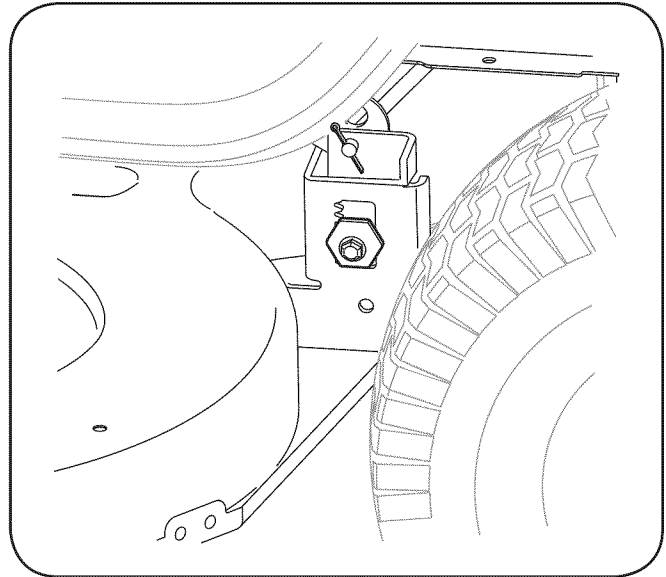

**Figure 7-1**
3. Remove the belt-keeper rod, from around the tractor's engine pulley, by removing the self-tapping screw (A) that secures it. See Fig. 7-1.
4. Remove the belt (C) from around the tractor's engine pulley. See Fig. 7-1.